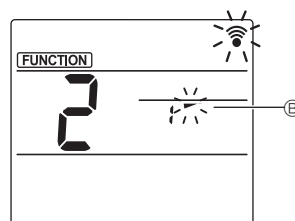

Fig. 3
- ③ Stille inn spjeldvinkelen (Fig. 3)